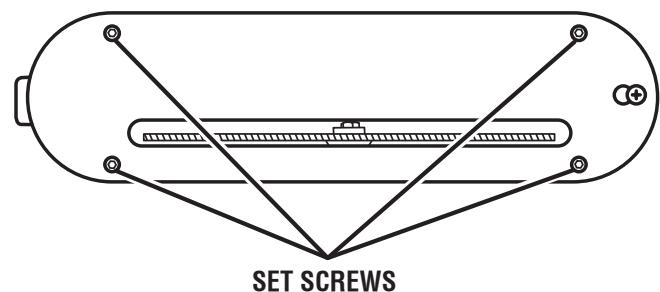

Fig. 26
See Figure 26.
- Using a 3/32 hex key, adjust the four set screws as shown in figure 26.